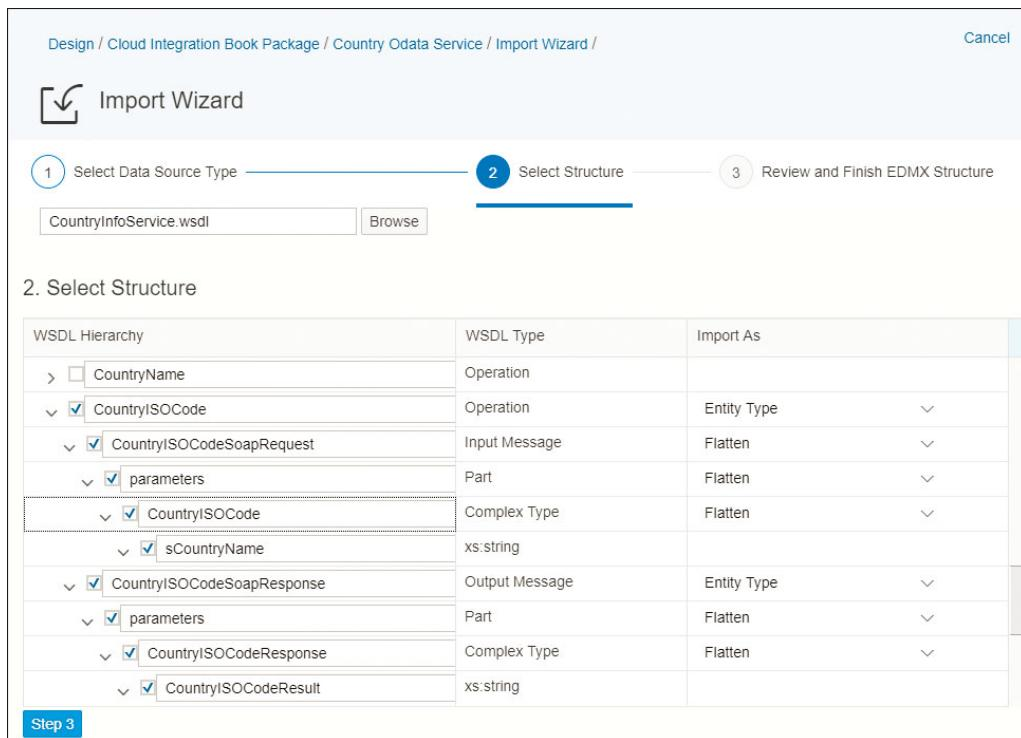

Figure 4.101 Selecting the Desired Request and Response Structures from the Data Source
4. Select the needed element from the data source. Note that we're going to use the `CountryISOCode` operation. Therefore, select its request and response structures (see Figure 4.101).